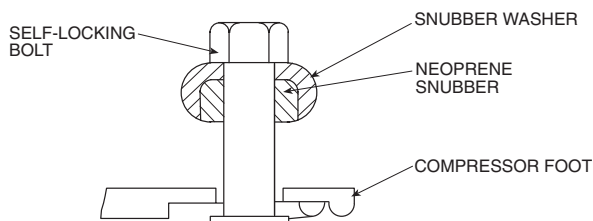

Fig. 15A — Compressor Mounting — 38AQ007 and 38ARQ008,012 Units
2. As shipped, compressor is held down by 4 bolts. After unit is installed, loosen each bolt using locknut until flat washer or snubber ($\frac{3}{8}$ in.) can be moved with finger pressure. Be sure compressor floats freely on the mounting springs and that upper flat washers can be moved with finger pressure. See Fig. 15A and 15B for compressor mounting.